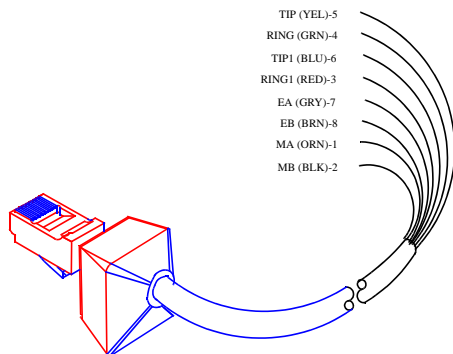
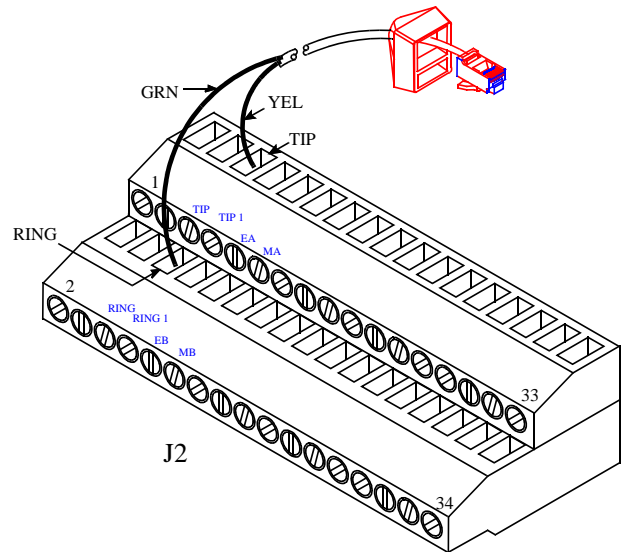
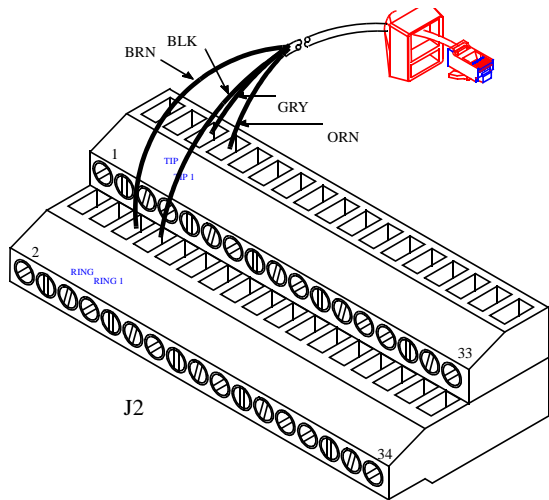
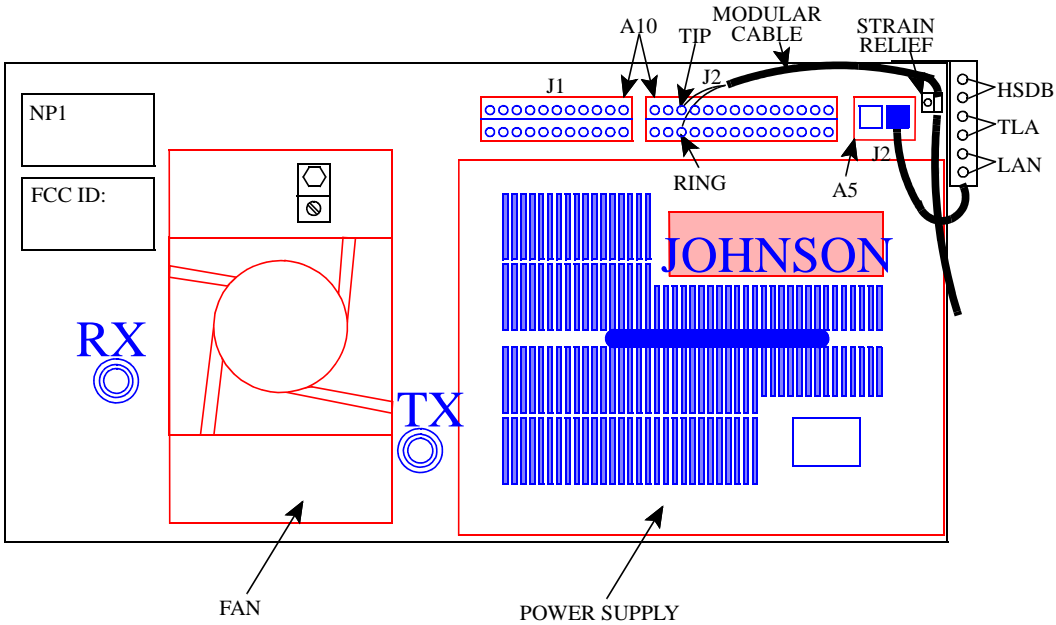

Figure 2-1 TELEPHONE MODULAR CABLE
Figure 2-2 2-WIRE TELEPHONE LINE CONNECTIONS
Figure 2-3 4-WIRE TELEPHONE LINE CONNECTIONS
Figure 2-10 REPEATER BACK VIEW
The modular telephone cable, Part No. 023-2000-376 (see Figure 2-1), connects to J2, terminals 5 and 6 (see Figure 2-2) on the rear of the repeater (see Figure 2-10). The modular cable is routed through a strain relief (mounting screw and strain relief are included in the cable kit, see Table 2-1) and attached to the rear of the cabinet, then plugged into the modular phone line jack. 2-Wire connections use Loop Start (LS) only.
The modular telephone cable, Part No. 023-2000-376 (see Figure 2-1), connects to J2, terminals 5, 6, 7 and 8 (see Figure 2-3) on the rear of the repeater. The modular cable is routed through a strain relief (mounting screw and strain relief are included in the cable kit, see Table 2-1) and attached to the rear of the cabinet, then plugged into the modular phone jack to the phone lines (see Figure 2-10). 4-Wire connection default is Immediate start and Wink start is optional.
The E-Leads (ear) on the VNC are used to signal the VNC that an incoming call is in progress. This signal is the same as the Ring signal on a 2-Wire circuit. The EB lead is connected to ground and can be used to turn on the E-Lead detector when connected to the E-Lead. The E-Lead has a polarity switch, by using W8 in either + or - configuration, which allows the VNC to operate properly. See Figure 2-3 for a diagram of these connections.